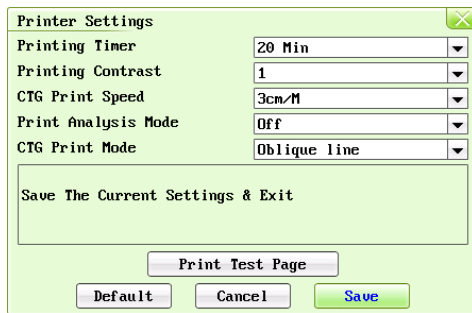

Fig.6-3
- 15) Printer Settings: select the **Printer Settings**, and enter the printer submenu, see Fig.6-3.